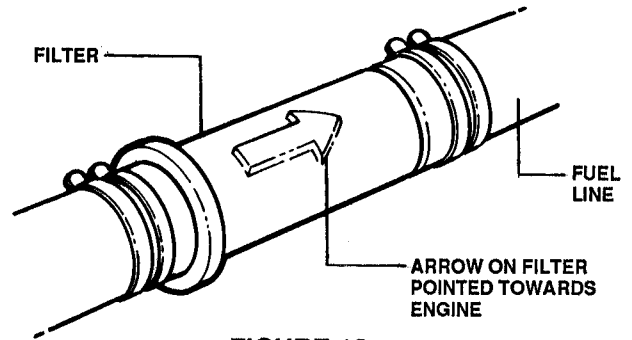

**FIGURE 17**
- **TRANSAXLE:** Remove rear panel or fender seat pan to gain access to transaxle. See Figure 17.
1. Remove six (6) screws.